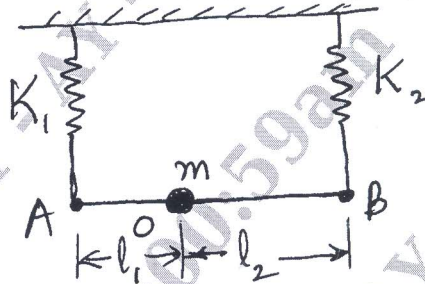

Fig.Q.2(b)
b. For the system shown in Fig.Q.2(b), AB is massless rigid bar and 'm' is point mass attached at 'O'. Find the natural frequency by finding equivalent spring stiffness. (10 Marks)